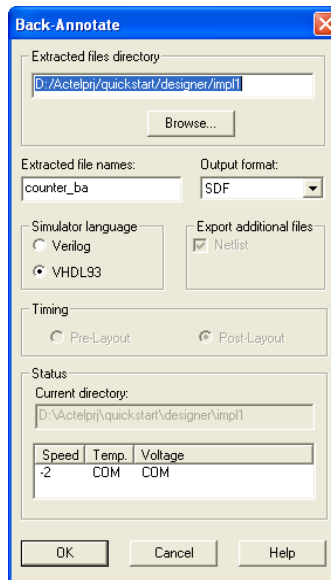

Figure 3-28. Back-Annotate Dialog Box
5. From Designer, click **Back-Annotate** in the Design Flow window. This opens the Back-Annotate dialog box shown in Figure 3-28.